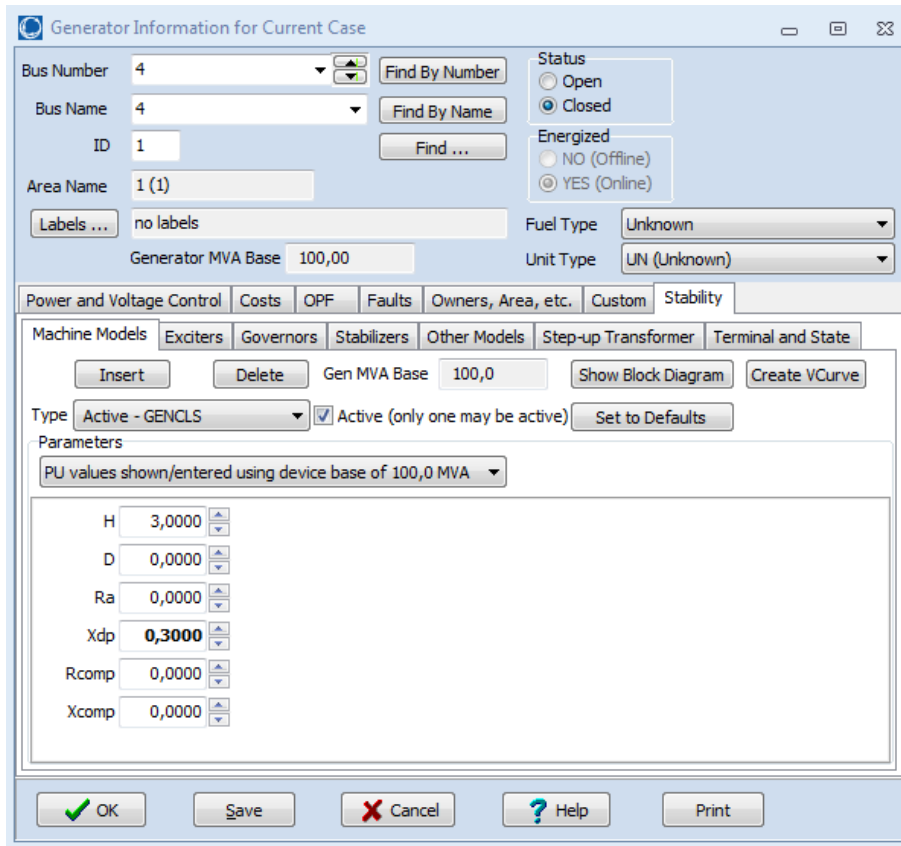

Figure 11: Generator properties window with stability model
- After it has been added, open its properties and click on the *Stability* tab (Fig. 11).